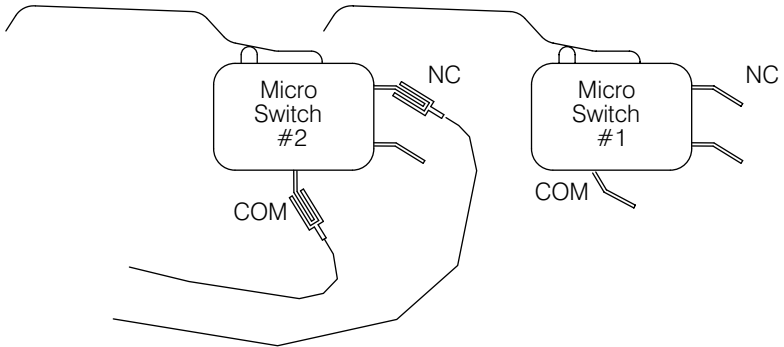

Figure 2
6. Connect the green wire to the red wire from micro switch #2 (Figure 2).